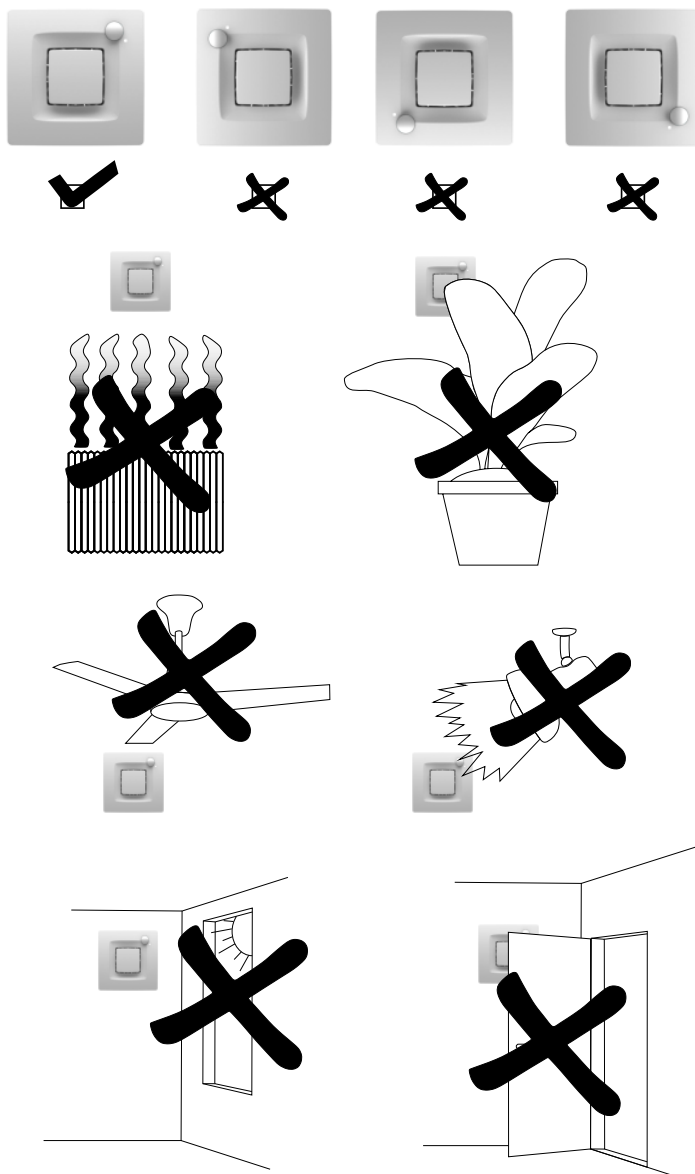

Fig. 3
**The SILENT DUAL is provided with a PIR (passive infra-red) detector. To work properly, the extractor must be installed in such a way that detection can be carried out easily, avoiding the situations indicated in fig.3.**